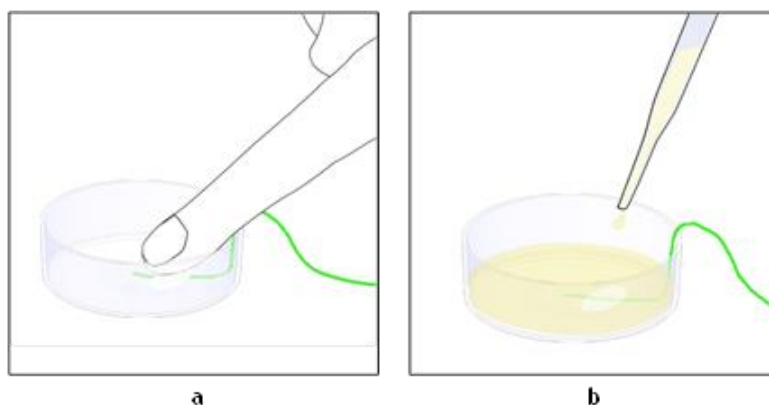

Figure 64. T Sensor attached on the bottom of the Petri dish (a -b).
- Secure with commercial adhesive tape the T Sensor to the bottom of the sample holder you use during standard operation (Petri dish, Chambered Glass Slide, etc.) as shown in Figure 64. Do not cover the tip of the T-Sensor with the adhesive tape.